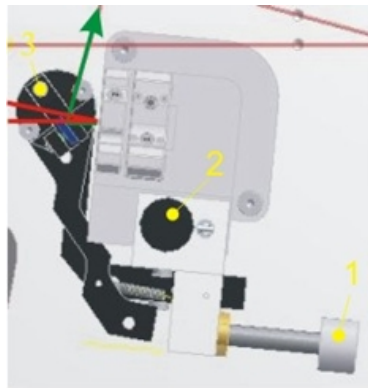

Figure B.4.: Pick up mirror CM6 mount with beam path (red - intracavity beam; green - out-coupled beam)
6. After having optimized the diffracted beam by appearance remove the aperture and adjust the pick up mirror CM6 height (2) and horizontal position, so that the intracavity beam is passing above CM6 and the first order beam hits the mirror CM6 after being reflected by CM1. To adjust the horizontal position tilt the mirror CM6 with screw 3 using an Allen key (see Figure B.4). If the adjustment range is not sufficient loose the mirror from its holder with an Allen key and slide it to the proper position. Then fix CM6 again.